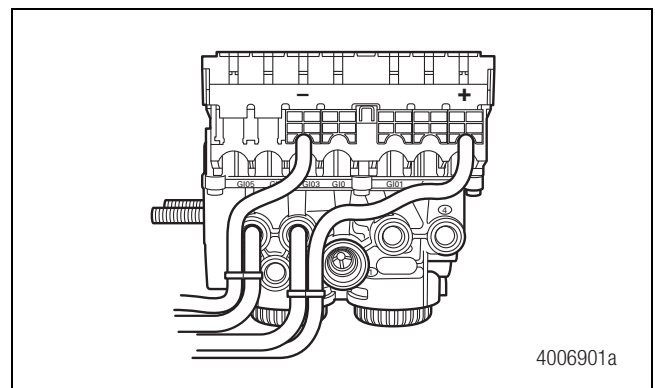

Figure 10
7. Create a strain relief to protect the sensor extension cables. Without this strain relief, normal trailer jounce and vibration will cause the terminals to spread and loosen. Use a tie wrap or clip to secure the cable to the air hose delivery lines. Figure 10.